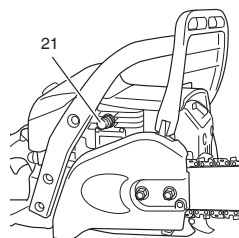

Fig. 14
3. Push the decompression valve (21). The valve (21) will automatically return to the original position once the engine has started. (Fig. 14).